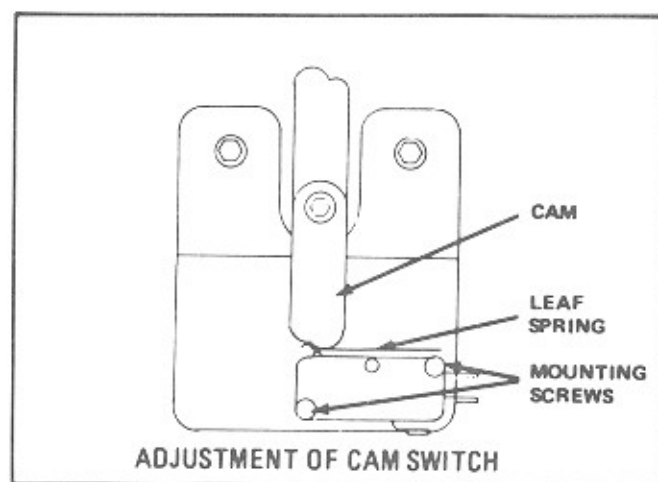

Figure 3-12. Cam Switch Adjustment
2. To adjust switches, loosen mounting screw under plunger end and move switch housing as required (See Figure 3-12.).